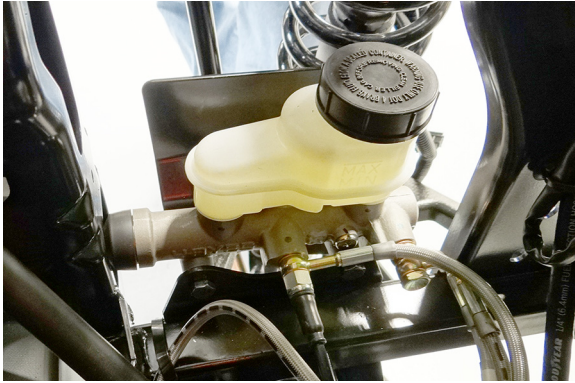

Fig. 3 Check Brake Fluid Level
2. Check the brake fluid level in the reservoir (Ref. Fig. 3). The fluid level should be between the upper MAX and lower MIN lines.